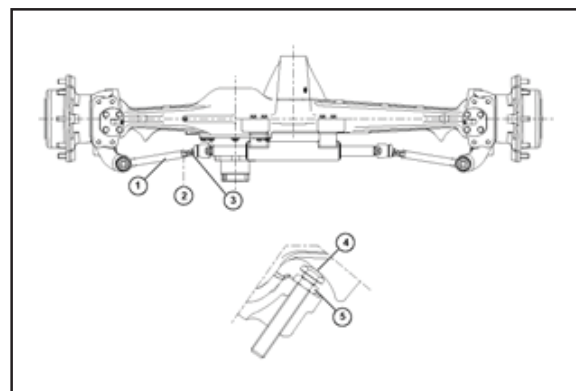

Fig.120
If toe-in is incorrect, operate with two wrenches on the guide rods (1) screwing in and out the two joint tie rods (3) equally till the toe-in is within the requested tolerance. After adjusting, screw in the lock nuts (2) of the guide rods (1) to the requested tightening torque (Fig. 120).
Adjust a protractor to the requested angle ( $55^\circ \pm 0-2^\circ$ ) and position it on the long bar. (Fig. 122) Move a wheel side till it forms, with the two bars, the angle fixed by the protractor. Adjust the mechanical steering stop, screwing in or out the stop bolt (Fig 120), locking it with the locknut (5) to 150 Nm torque.